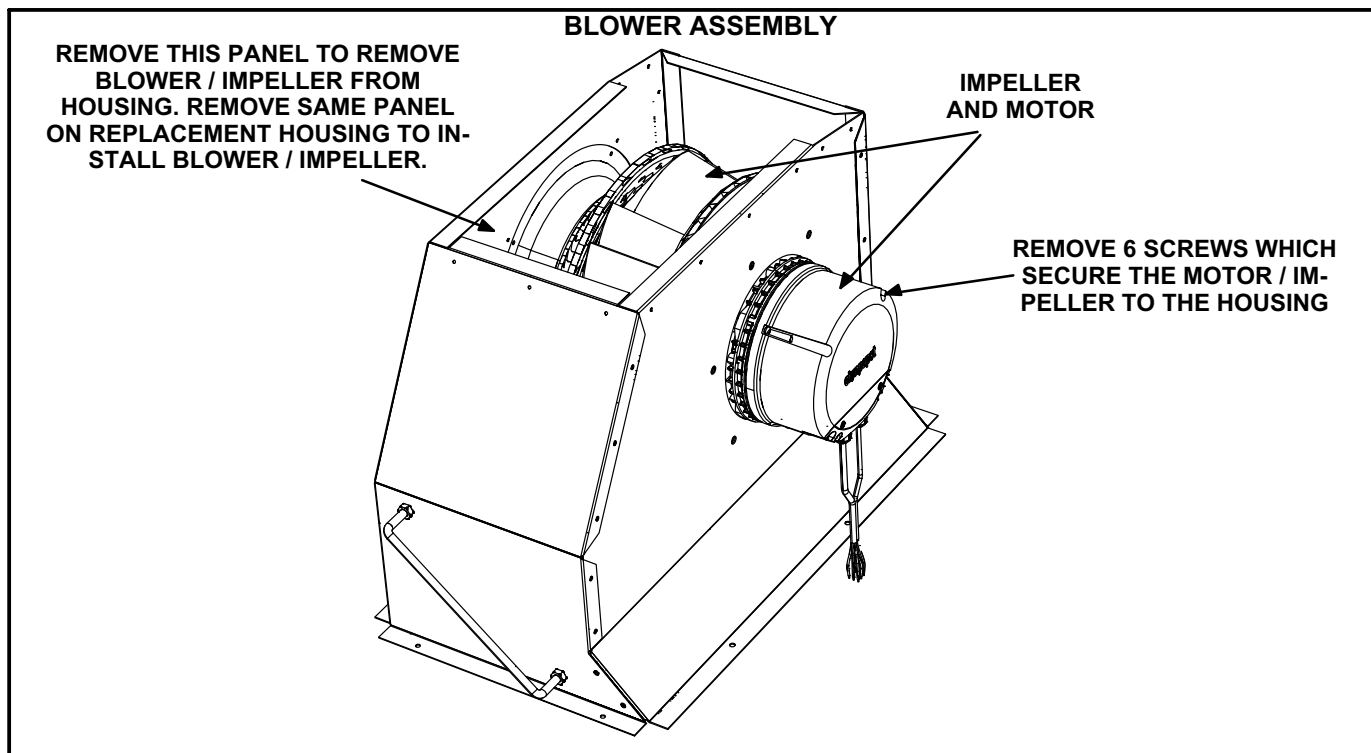

FIGURE 4
- 10- Turn the blower assembly upside down. See figure 4.
- 12- Remove the motor / impeller secured to the housing. See figures 4 and 5.